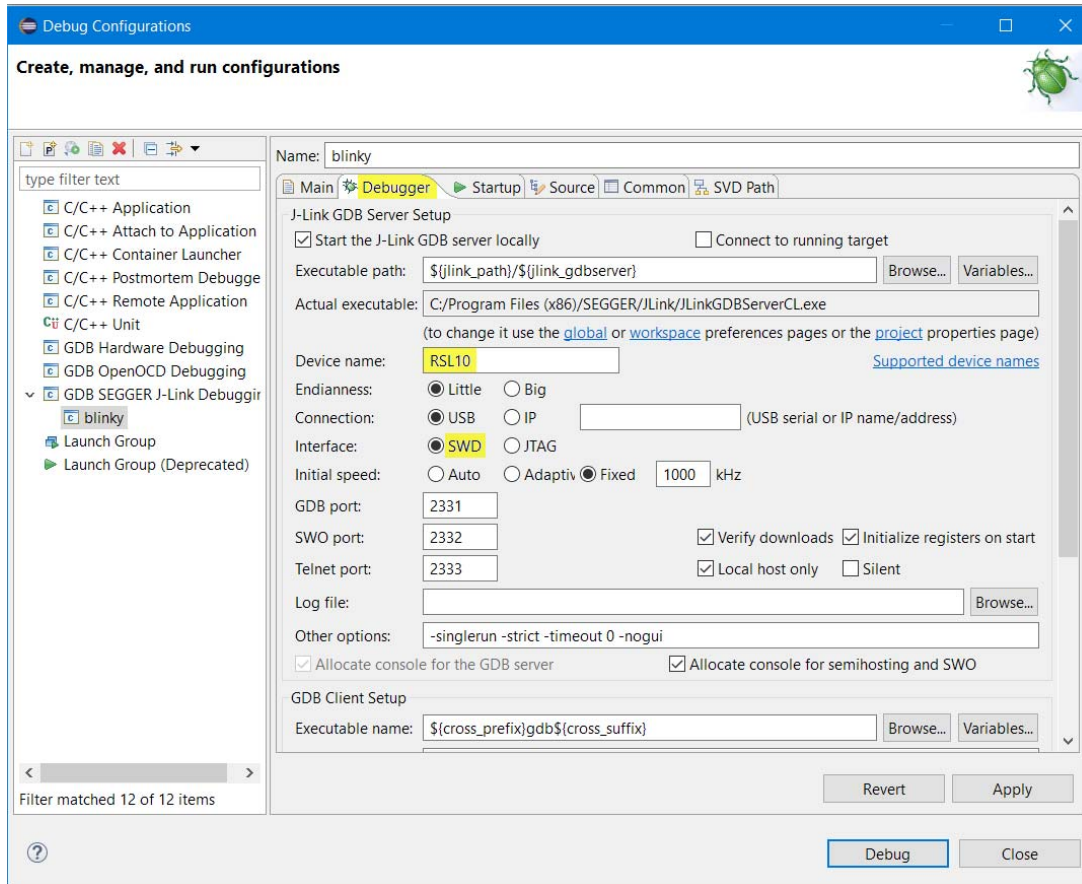

Figure 10. Setting Up a GDB Launch Configuration, Debugger Tab
3. Change to the **Debugger** tab, and enter **RSL10** in the **Device Name** field. Ensure that **SWD** is selected as the target interface (as shown in Figure 10).